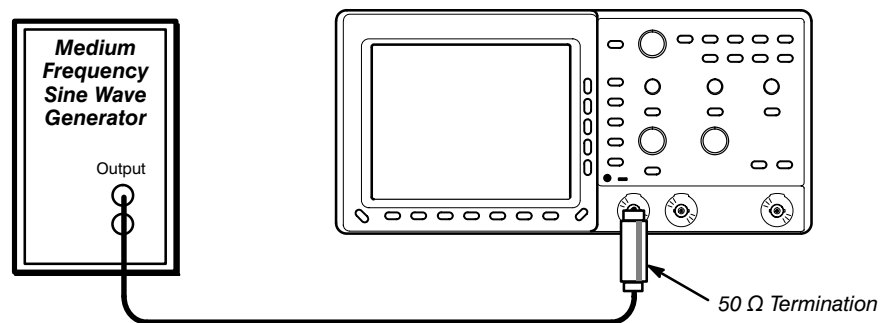

Figure 4-5: Hookup for Analog Bandwidth Check
1. Connect, through a 50  $\Omega$  precision cable and a 50  $\Omega$  termination, the sine wave output of a medium-frequency leveled sine wave generator to **CH 1** (see Figure 4-5). Set the output of the generator to a reference frequency of 50 kHz.